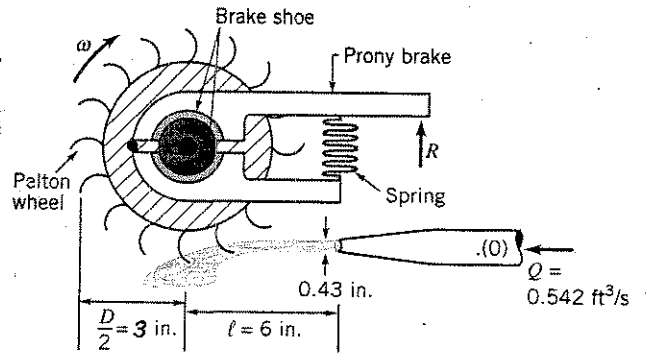

FIGURE P12.74
12.74 The device shown in Fig. P12.74 is used to investigate the power produced by a Pelton wheel turbine. Water supplied at a constant flowrate issues from a nozzle and strikes the turbine buckets as indicated. The angular velocity, ω , of the turbine wheel is varied by adjusting the tension on the Prony brake spring, thereby varying the torque, T_{shaft} , applied to the output shaft. This torque can be determined from the measured force, R , needed to keep the brake arm stationary as $T_{\text{shaft}} = Fl$, where l is the moment arm of the brake force.